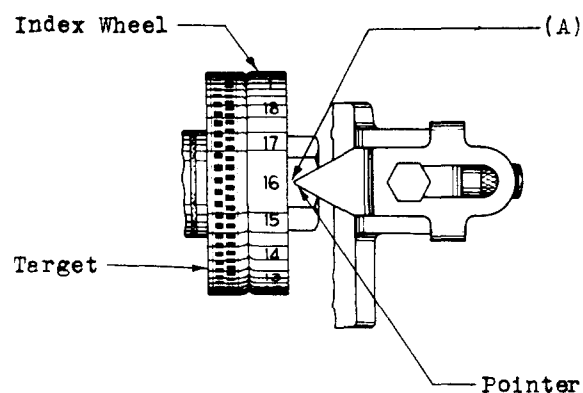

Fig. 7
2.11 Pointer Adjustment: Fig. 7(A)